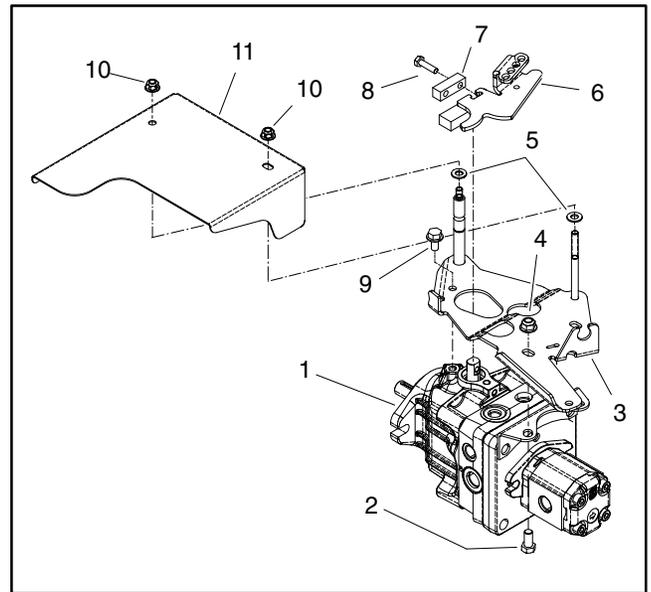

Figure 32
4. Loosen two (2) set screws that secure pump pulley to the hydraulic pump shaft. Slide pulley from the pump shaft. Locate and remove key from pump shaft.
5. Remove two (2) lock nuts that secure pump shield to pump (Fig. 32). Remove shield from pump. Locate and retrieve two (2) flat washers from tops of studs on pump control assembly.
6. Disconnect hydraulic pump controls (Fig. 32 and 33) from the pump as follows:
B. Loosen two (2) socket head screws (item 8, Fig. 32) that secure pump lever to pump trunnion shaft.
C. Remove two (2) cap screws with flange nuts (items 2 and 4, Fig. 32) and washer head screw (item 9, Fig. 32) that secures control bracket to hydraulic pump.
2. Position hydraulic pump assembly to the frame pump support. Secure pump to the pump support with two (2) flange head screws and flange nuts.
4. Apply Loctite 242 (or equivalent) to pulley set screws and secure pulley to pump shaft with two (2) set screws.
6. Install hydraulic pump controls (Fig. 32 and 33) to the pump as follows:
B. Secure control bracket to hydraulic pump with two (2) cap screws with flange nuts and washer head screw.
C. Secure pump lever to pump trunnion shaft with two (2) socket head screws.
7. Place two (2) flat washers to tops of studs on pump control assembly. Position pump shield to pump and secure with two (2) lock nuts.